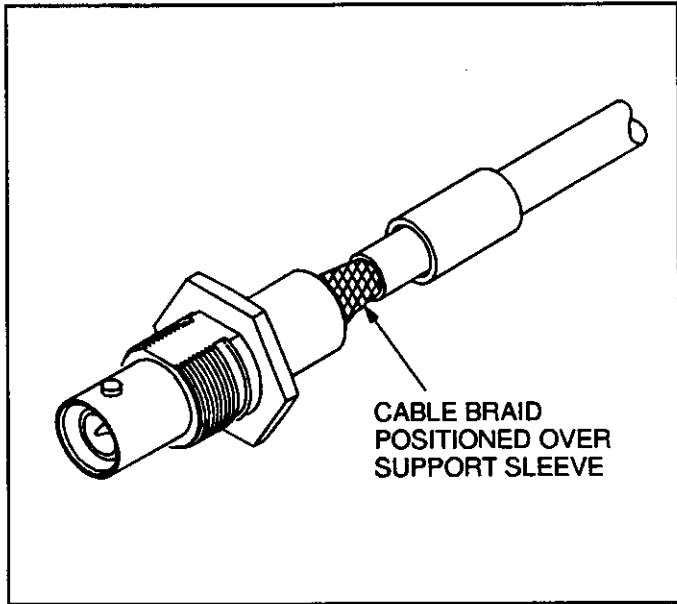

Fig. 7
2. Flare cable braid. Insert contact into bulkhead jack body until it snaps into place. Make sure that the cable braid is positioned over the support sleeve of the bulkhead jack body. Gently pull back on the cable to ensure that the contact is held in place by the internal locking feature. See Figure 7.